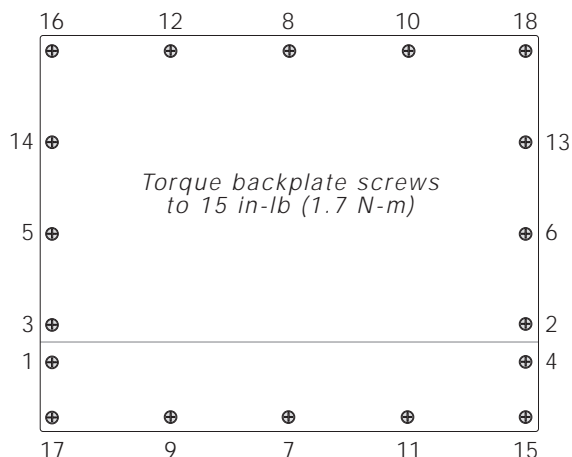

Figure 2. 920i Enclosure Backplate
5. Make connections to the option card as required. Use cable ties to secure loose cables inside the enclosure. Once cabling is complete, position the backplate over the enclosure and reinstall the backplate screws. Use the torque pattern shown in Figure 2 to prevent distorting the backplate gasket. Torque screws to 15 in-lb (1.7 N-m).